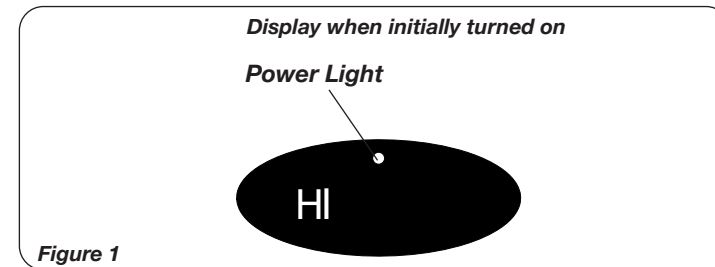

Figure 1
5. Upon turning the Heater on, the unit will be in HIGH heat (1500 Watts) (Figure 1)